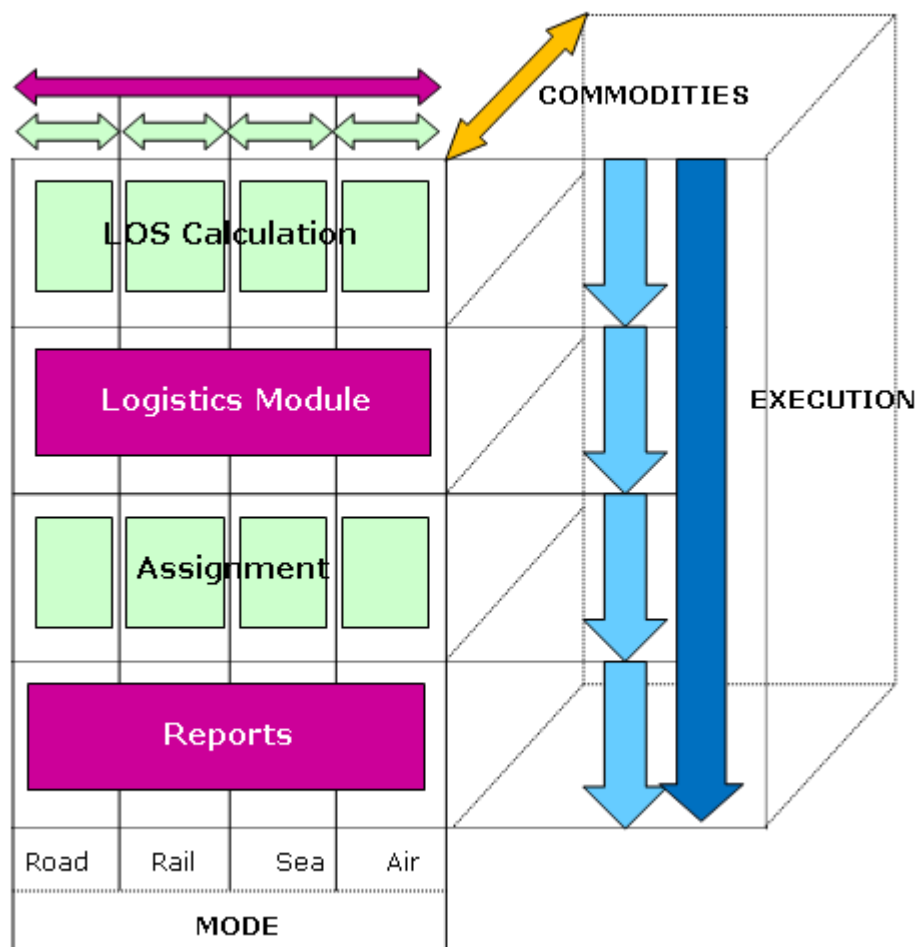

Figure 27 Different ways to run the *Samgods Model* application for the standard part
The first four steps of the application represent the “standard” module where the capacity and congestion on rail links are not considered. This “standard logistic” module has different choice dimensions, depending on the results that the user wants to simulate (as showed in Figure 27).
- The model could be run as an uninterrupted process or step-by-step (illustrated in the Figure 27 by the blue arrows to the right).
- It is possible to run all the commodities at once or one commodity at the time (illustrated by the yellow arrow at the top of Figure 27).
- For the steps *LOS Calculation* and *Assignment* is it possible to run all the modes or only a specific mode (illustrated by the green boxes to the left in Figure 27).